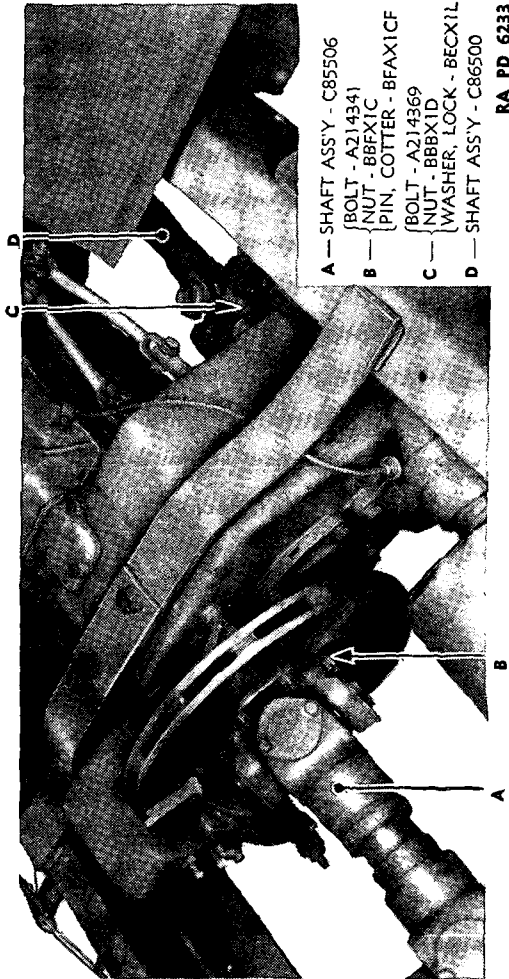

FIGURE 70.—Propeller shafts, installed.
27. Removal of assembly (fig. 70).—*a. Front axle propeller shaft.*—Tools: 5/8-inch open end wrench, 5/8-inch socket wrench. Re-